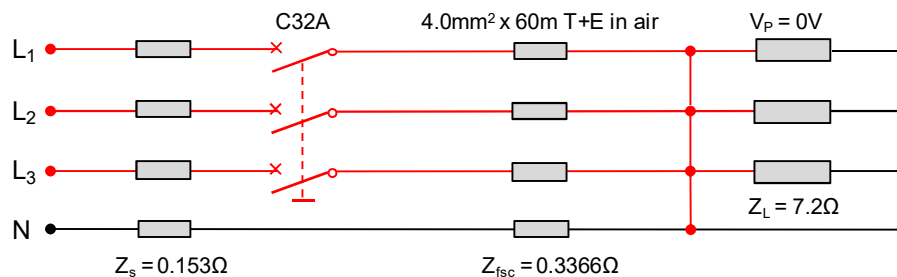

figure 6
Figure 6 shows a circuit condition known as a bolted symmetrical fault. The impedance of the fault is considered to be negligible. The only impedance remaining to limit the circuit current is the impedance of the cable. Interestingly the fault forms a star point on the supply side of the load, the cable impedances form a balanced star connected circuit. As the circuit is balanced no current will flow in the neutral, **the neutral conductor impedance is not included** when calculating the short circuit current.
1. Calculate the Line current (I_L) for the circuit shown in figure 6.